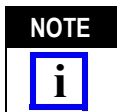

Figure 1
1. Remove quick pins from the adapter assembly. Refer to Figure 1.